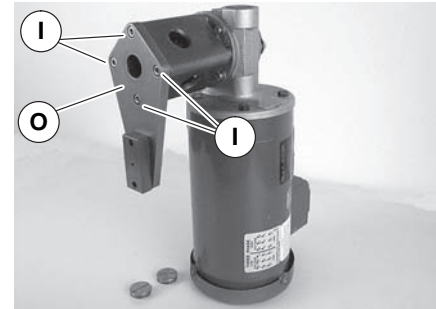

Figure 17
4. Remove four (4) screws (Figure 17, item I) and remove mounting bracket & tube (O).
14. Attach mounting bracket & tube (Figure 17, item O) to gearmotor. Tighten screws (I) to 103 in-lb (12 N-m).